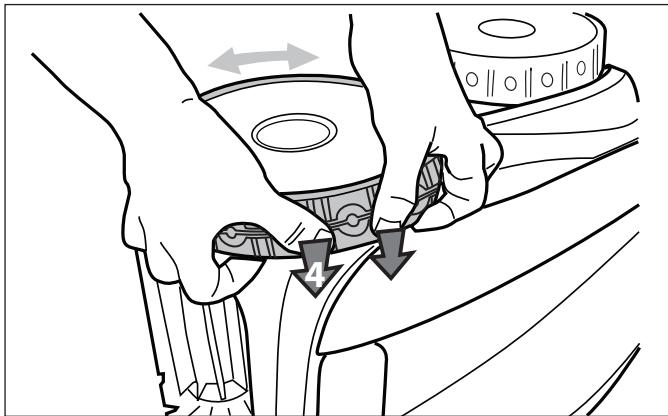

Figure 38. Push the Tire into Place on the Wheel
6. Push and position the rib of the inner side of the tire in the groove of the wheel (Figure 38). If needed, turn the wheel gently to help with installation.